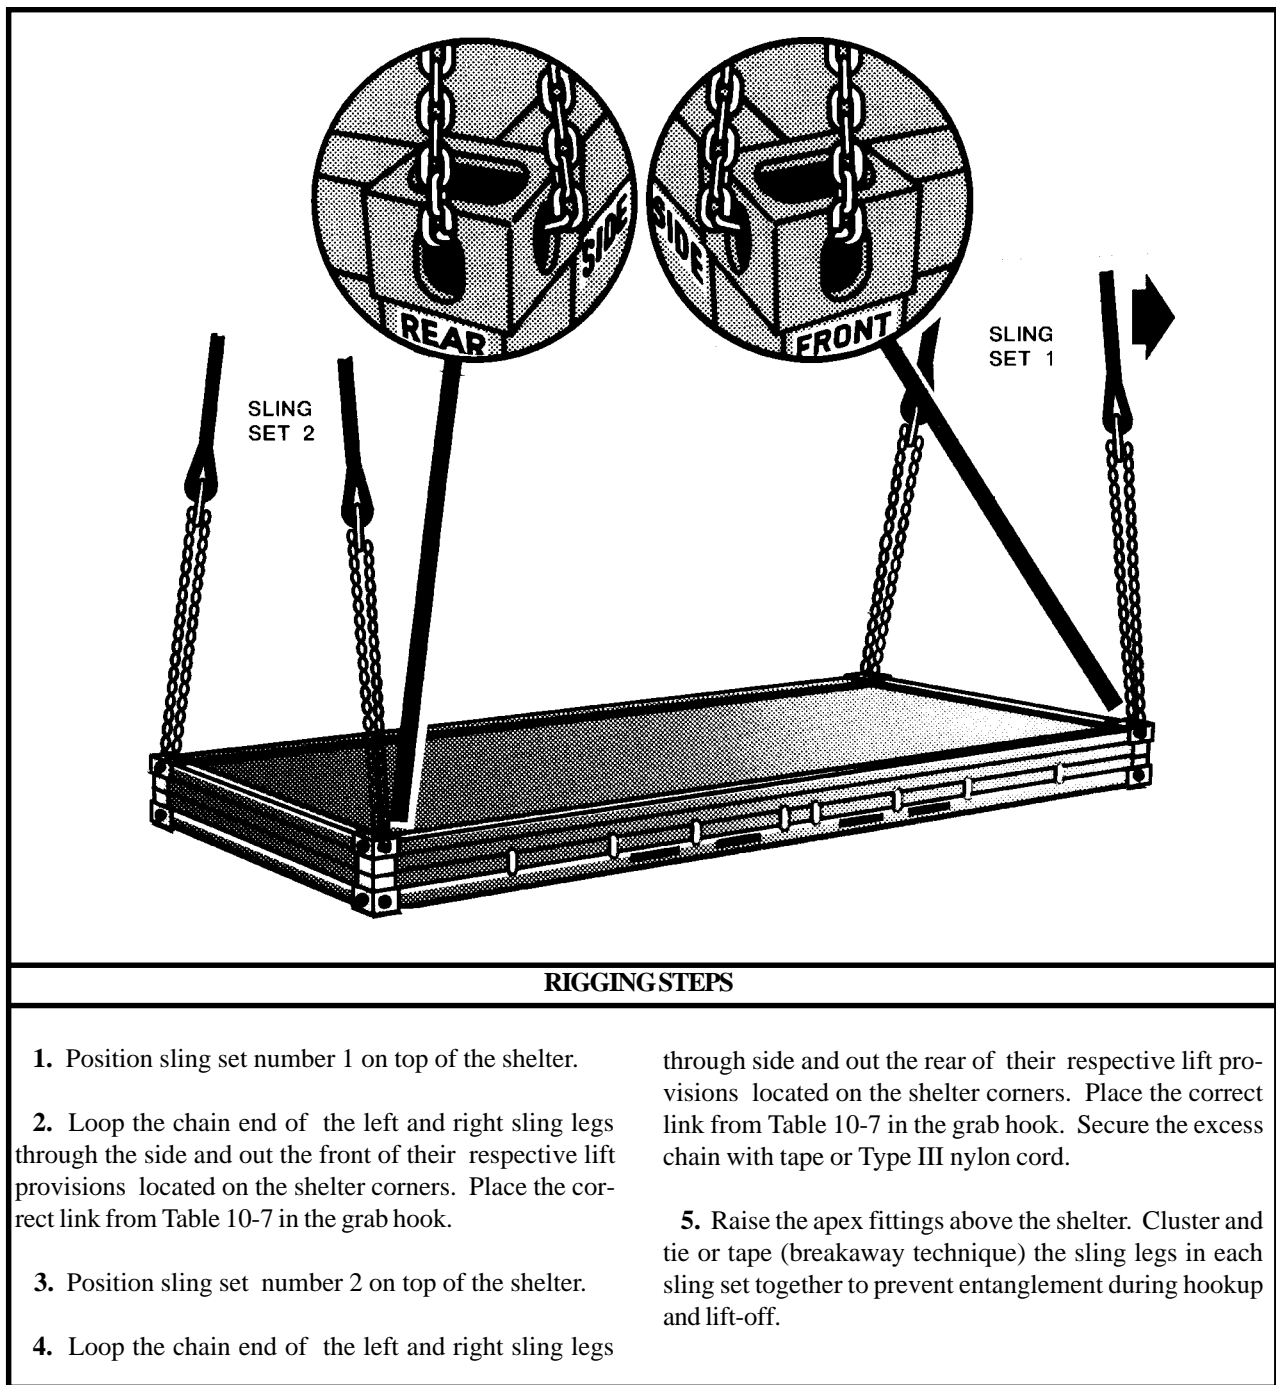

Figure 10-7. Shelter, Knockdown, 8- x 8- 20-Foot
(1) Preparation. Prepare the load using the following steps:
(2) Rigging. Rig the load according to the steps in Figure 10-7.